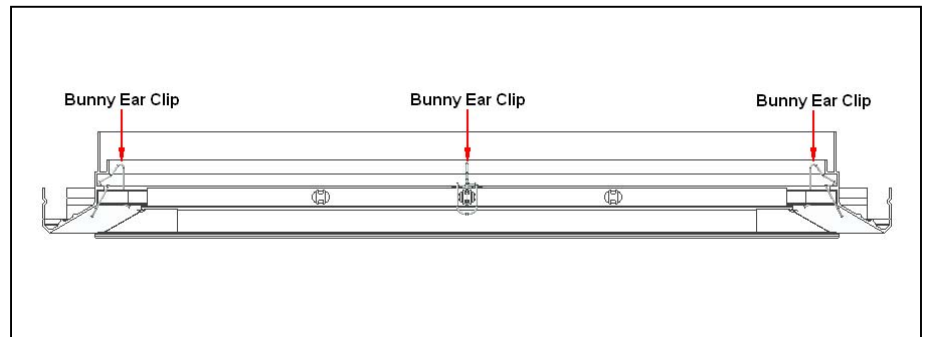

Figure 2: Locate Bunny Ear Clips
3. Locate the Bunny Ear Clips holding the Core in position as shown in figures 2 & 2a. Please note that there will be at least 1x Clip fitted on all four sides, though there could be more dependent on the Diffuser Size.